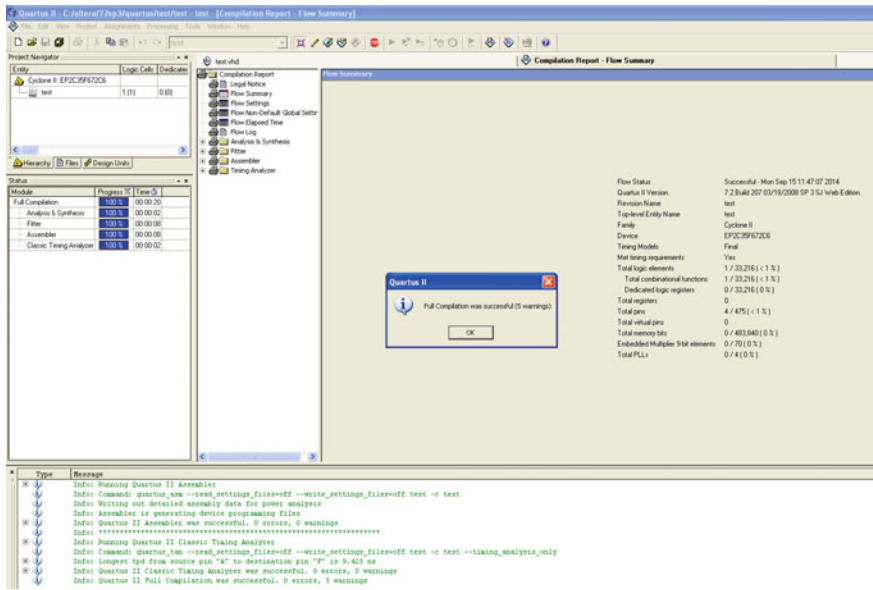

Fig. 2.8 Report of compilation
- (3) After successful analysis and synthesis, compilation report is generated as shown in Fig. 2.8. If there are errors, then click on that error so that it helps you for debugging the design.